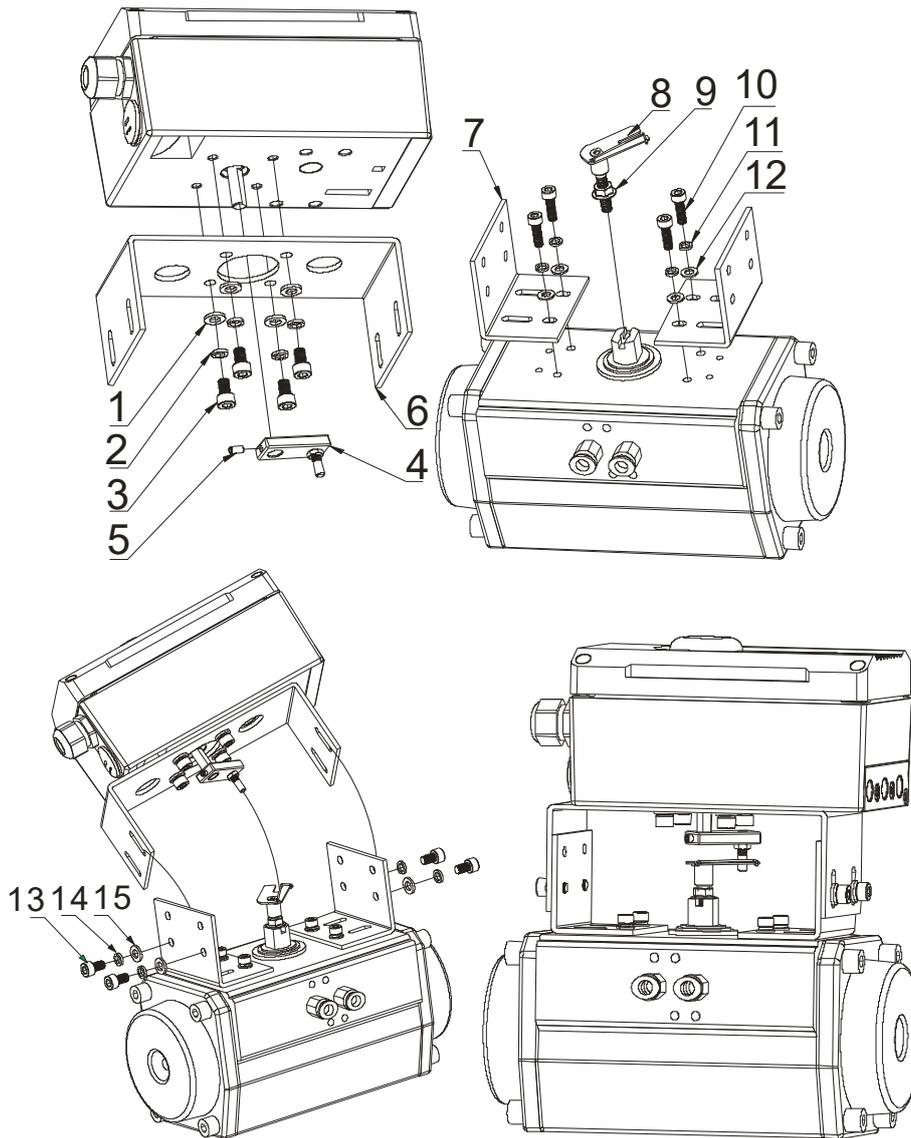

Fig.4-6 Installation on a rotary actuator
The installation steps as followings ((Fig. 4-6):
Fix the positioner bracket (Fig. 4-6/⑥) to the positioner with hexagon head screw (Fig. 4-6/③), spring washers (Fig. 4-6/②) and washers (Fig. 4-6/①).
Fix the feedback lever (Fig. 4-6/④) to the shaft of actuator through hexagon head nut(Fig. 4-6/⑤).
Fix the actuator bracket (Fig.4-6/⑦) to the actuator with hexagon head screw (Fig.4-6/10), spring washers (Fig.4-6/ ⑪) and washers (Fig.4-6/ ⑫)
Screw in hexagon head nut (Fig.4-6/⑨) to feedback lever (Fig. 4-6/⑧), screw in the feedback lever to the actuator and fasten it with the hexagon head nut (Fig.4-6/⑨).
Put the positioner carefully on the actuator. The pin of the feedback lever (Fig. 4-6/④) should be in the slot of the feedback lever (Fig. 4-6/③). Adjust the height of the positioner, fasten the screw on the pin of the feedback lever (Fig. 4-6/④) and fix the positioner with hexagon head screw(Fig. 4-6/13), spring washers (Fig. 4-6/14) and washers (Fig. 4-6/15). Adjust the rotate angle of the feedback lever to comply to the requirements in §4.2.1.